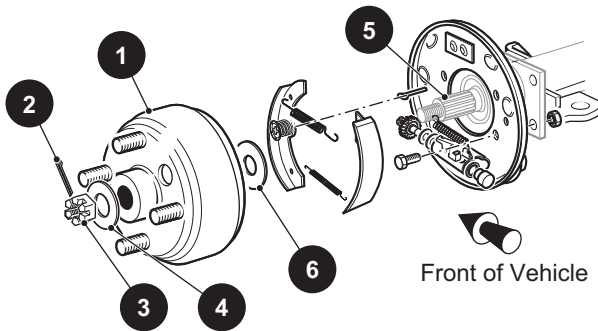

Figure 13 Brake Assembly
4. Slide the brake drum (1) from the axle shaft (5). If required, tap the drum with a plastic faced hammer to loosen it from the axle shaft or use a drum puller (P/N 15947-G1) (Ref. Figure 13).
1. Clean the axle shaft (5) and the splines on the brake drum (1) to remove dirt, grease and foreign matter.
3. Install the inner brake drum washer (6) and slide the brake drum (5) into place (Ref. Figure 13).